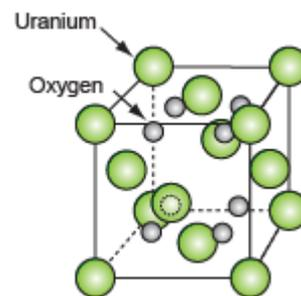

Figure C48
**E40.** The uranium dioxide structure looks like Figure C48.